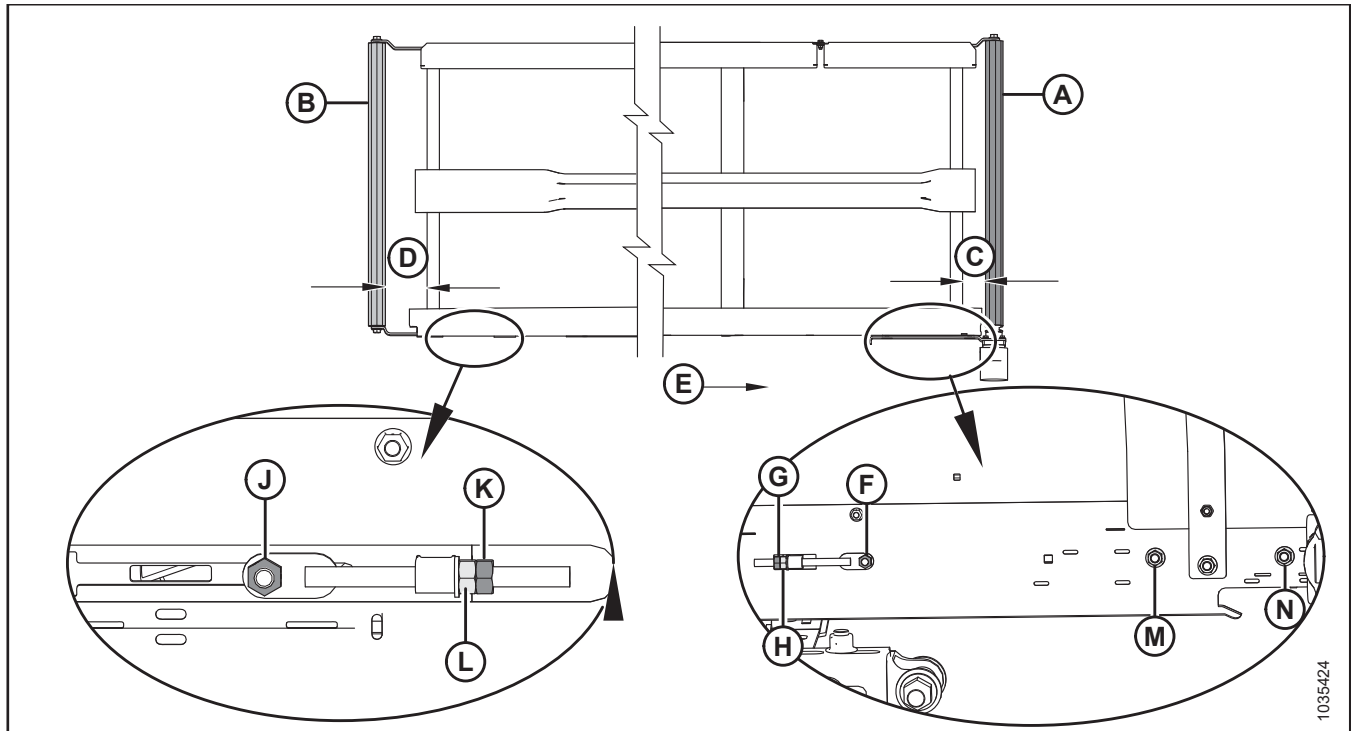

Figure 4.248: Draper Tracking Adjustments – Left Draper
2. Adjust drive roller (A) to change **C** (refer to Table 4.2, page 393 and Figure 4.248, page 393) as follows:
- a. Loosen nuts (F), (M), and (N), and jam nut (G).
- b. Turn adjuster nut (H).
- c. Tighten nuts (F), (M), and (N), and jam nut (G).
3. Adjust idler roller (B) to change **D** (refer to Table 4.2, page 393 and Figure 4.248, page 393) as follows:
- a. Loosen nut (J) and jam nut (K).
- b. Turn adjuster nut (L).